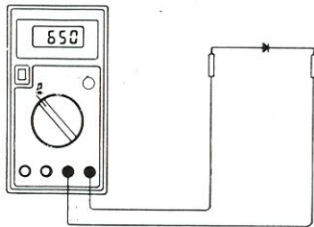

Fig . 5-6 Diode measurement
2. Set the FUNCTION switch to the  $\rightarrow|+$  range and connect the test leads across the diode under measurement see Fig. 5-6.